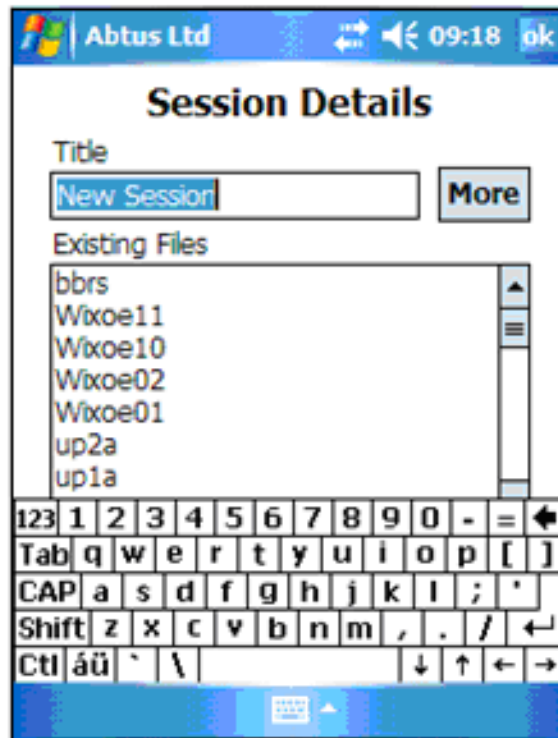

Figure 3
4. Input a file name for the recording in the 'Title' box (Figure 3)